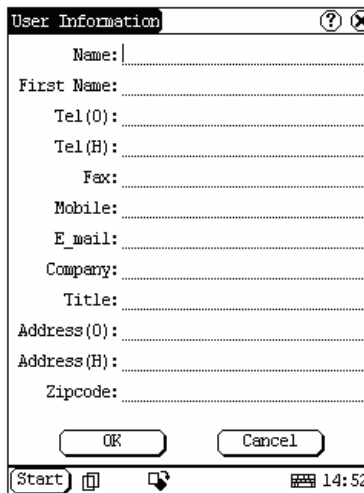

Figure 4-47
- 4) In the User Information interface, activate Soft Keyboard, and input the user information. (See Figure 4-47)